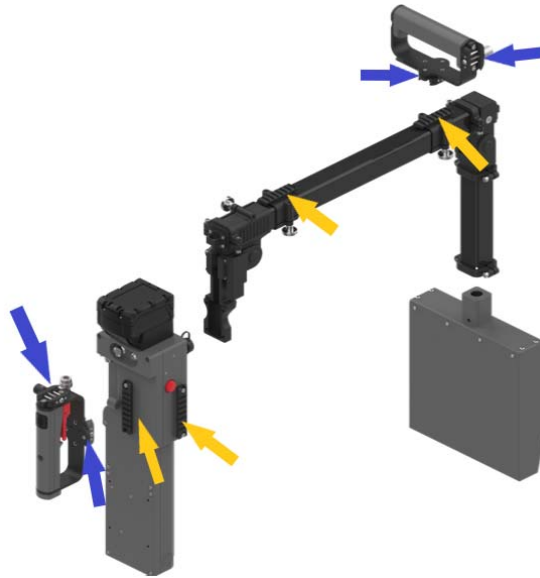

Figure 18 - Optional Handle Configuration Example
- The OpenVision HD utilizes standard picatinny rails and allows the handles and grips to be configured in multiple ways to suit different applications (Figure 18) shows one such configuration. The grip is moved to the top tube and the D-handle is moved to the main housing.